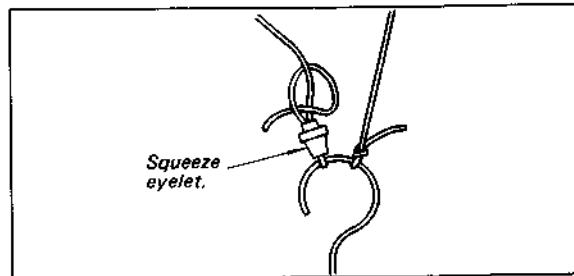
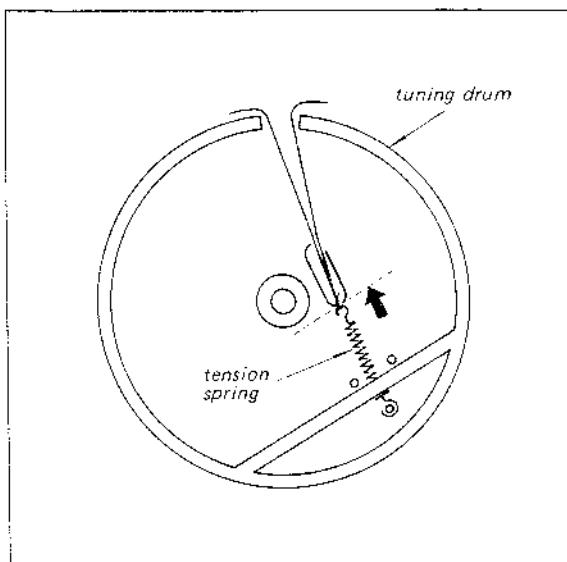

Fig. 2-8. Dial cord finish
Fig. 2-9. End of dial cord stringing
3. At the finish point, pass the doubled end of the cord through the eyelet and tighten the cord and squeeze the eyelet so that the string is under tension (See Fig. 2-8).
**Note:** The end of spring should be near the center of tuning drum as shown in Fig. 2-9. Make two knots in the cord to keep it from slipping out of the eyelet (See Fig. 2-8).